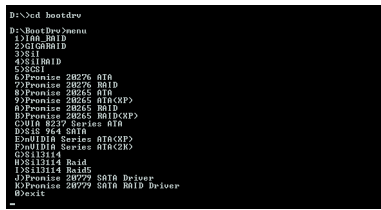
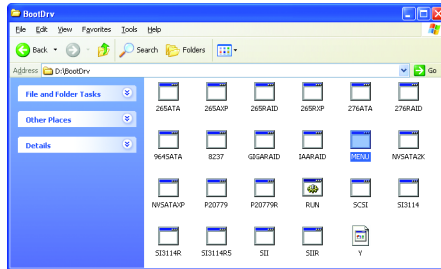

Figure 13
Figure 14
Step 2: When the controller menu (Figure 13) appears, remove the startup disk and insert the blank formatted disk. Select the controller driver by pressing the corresponding letter from the menu. For example, from the menu in Figure 13, press E to select **nVIDIA Series ATA(XP)** for Windows operating system. Your system will then automatically zip and transfer this driver file to the floppy disk.
(Note) For users without a startup disk. Use an alternative system and insert the GIGABYTE motherboard driver CD-ROM. From the CD-ROM drive (example: D:) double click the **MENU.exe** file in the **BootDrv** folder (Figure 14). A command prompt window will open similar to that in Figure 13.